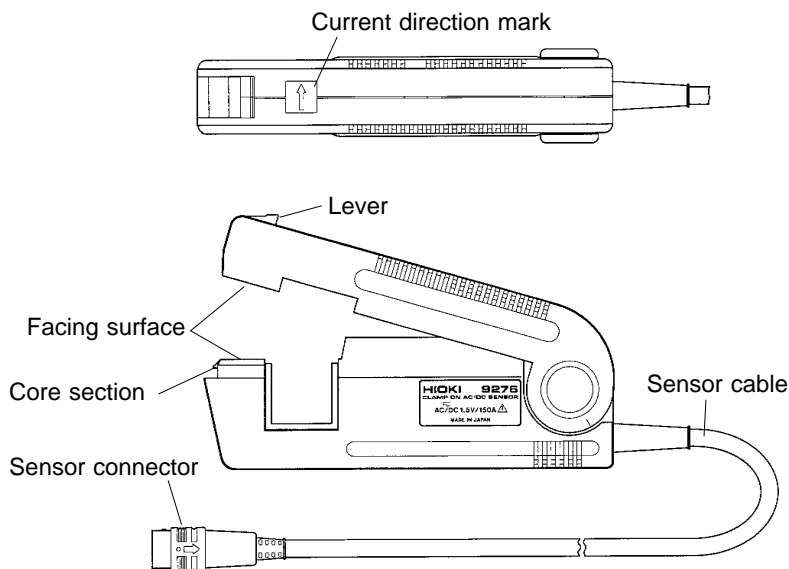

Figure 5 9276 Identification of Indicators
- (1) Select both ranges of the 3270 and the measuring equipment according to the input current value. (Refer to Table 2 in Section 1.4.3.3.)
- (2) Set the coupling switch to DC.
- (3) Adjust the GND level of the measuring equipment (oscilloscope, etc.).
- (4) Set the measuring equipment for DC coupling.
- (5) Before clamping the sensor to the conductor to be measured, press the demagnetizing switch.
- (6) Turn the zero adjustment dial and adjust the output voltage to zero (GND level).
- (7) Gently press the lever of the sensor to open the core section. (Refer to Figure 5, 9276 Identification of Indicators.)
- (8) Position the sensor so that the current direction mark points in the direction of the load and so that the conductor being measured is centered, and then close the core section.